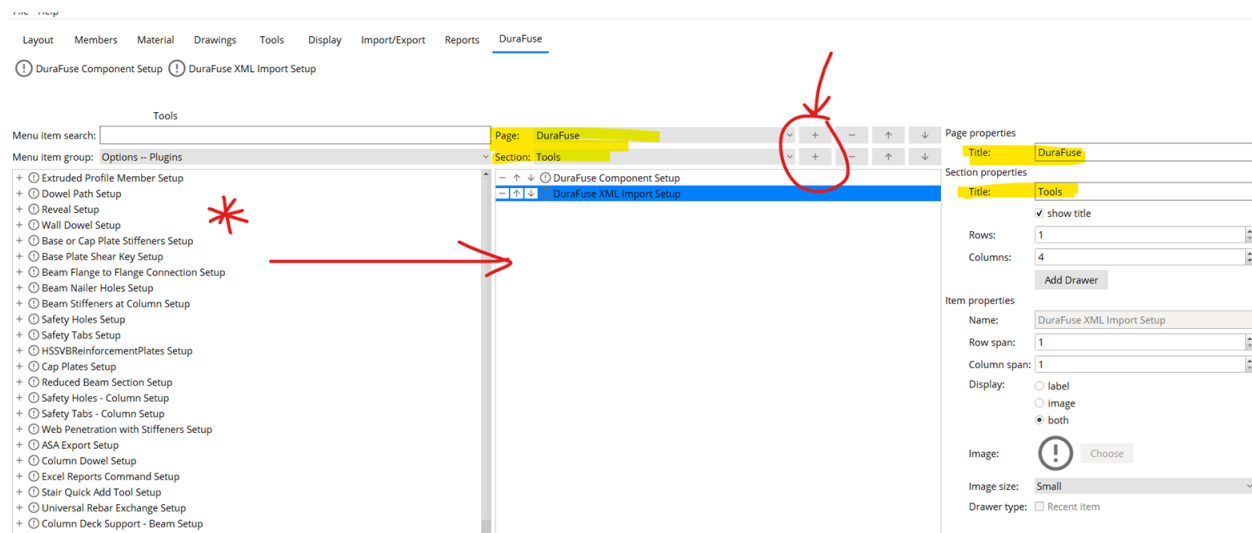

Figure 10. Add New Page with DuraFuse Frames Components
- 10) Create a new “Page” by using the “+” button next to *Page*. Give it a title (Figure 10).
- 11) Once the new page has been created, use the “+” button next to the DuraFuse components to move them to the right and add them to the new page (Figure 10).